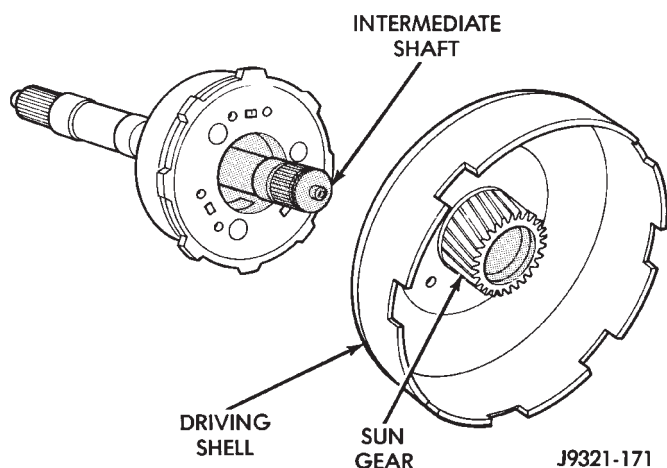

Fig. 73 Sun Gear And Driving Shell Assembly Removal—46RH
(5) Remove sun gear and driving shell as assembly (Fig. 73).